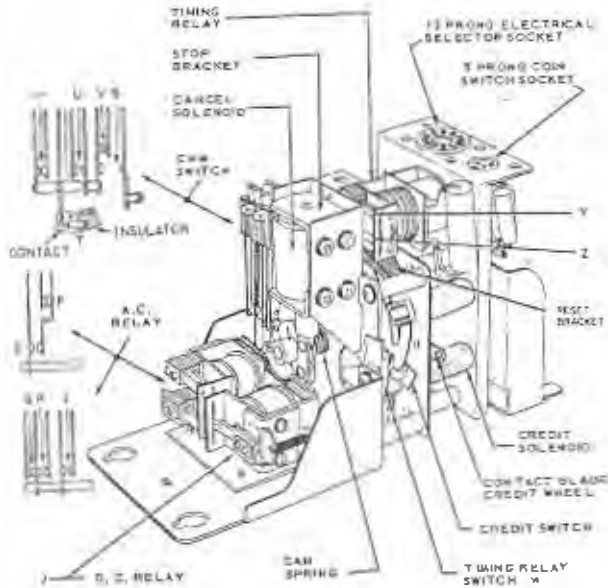

Figure 2.
The principle parts of the unit are three credit solenoids, a cancel solenoid, two cam operated switch groups, a timing relay, an a.c. operated "50¢ relay" and a d.c. operated "slow release relay". These may be identified in *Figure 2*.
3. Set the end of the Cam Spring in the first hole in the panel. The Cam Spring may be identified in Figure 2. Check operation by closing all snap-action credit switches and allow the Cam Spring to rotate the switches past the reset bracket. This should be checked slowly to determine if the Spring pressure is adequate to reset the switches without benefit of inertia. If more spring pressure is required, move to the second hole and repeat the test. Use the lowest possible spring pressure (consistent with positive operation) to insure minimum wear and optimum low voltage operation.